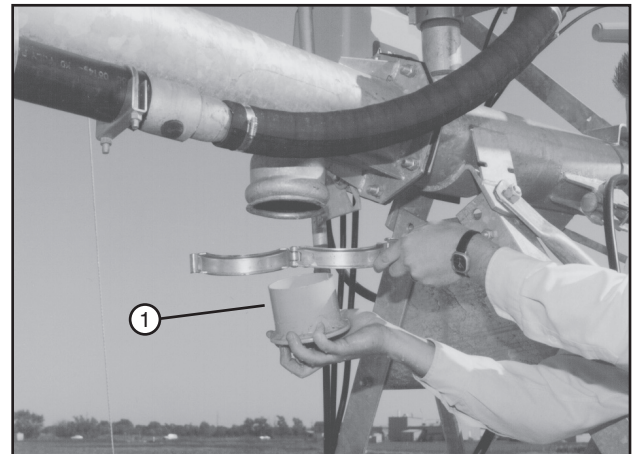

Figure 91-2 1. Sand Trap
4. Remove and clean the sand trap at the last regular drive unit. See figure 91-2.